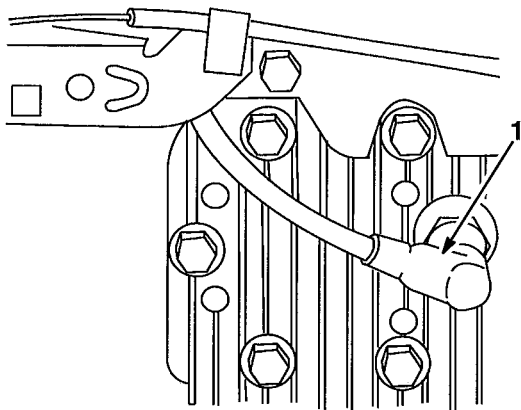

Figure 3
1. Stop engine and disconnect spark plug wire (Fig. 3) before installing or removing cover plate.
6. Connect spark plug wire (Fig. 3).